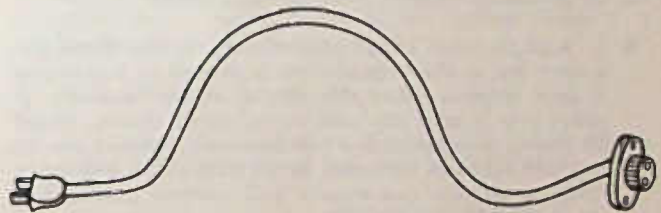

Fig. A-4.
20. C. It is important in electronic devices that there be no direct connection back to the power line. This is true because one side of the power line is grounded and the other is “hot.” If an electrical device should be plugged into the power line so that its metal parts were “hot” and you touched the metal parts while standing on a ground or while touching some grounded object (maybe another appliance) you could easily get a lethal shock. A transformer prevents this from happening by eliminating any direct metallic connection between the power-line ground (which is actually an earth ground) and the radio. Some radios do not use a transformer and they have to use great care that no metallic parts, connected to the common side of the circuit, can be touched by the radio user. For example, metal mounting screws often screw into an insulating plastic block. Control shafts, such as those on tuning or volume controls, either are made of plastic—the entire control insulated from the metal parts of the chassis—or in some cases the plastic knobs that slip over the shafts are “captive.” That is, they cannot be removed far enough for the metal shaft to be exposed. Interlock cords are used extensively. This is a power cord that automatically unplugs from the radio circuit when the back of the radio is removed for service. A “cheater” cord is needed by the radio technician to remake the connection from the radio to the power line (Fig. A-4).